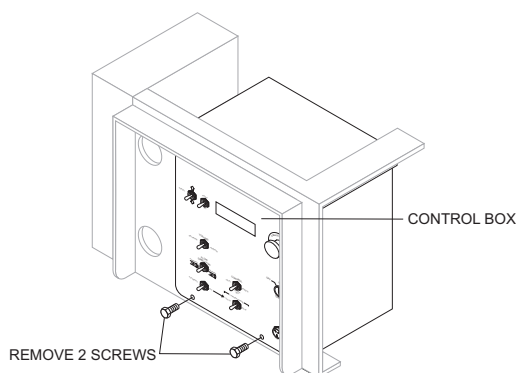

Figure 34. Removing The Control Box
1. Remove the two screws (Figure 34) on the **digital control panel** that secure the front panel to the control box.